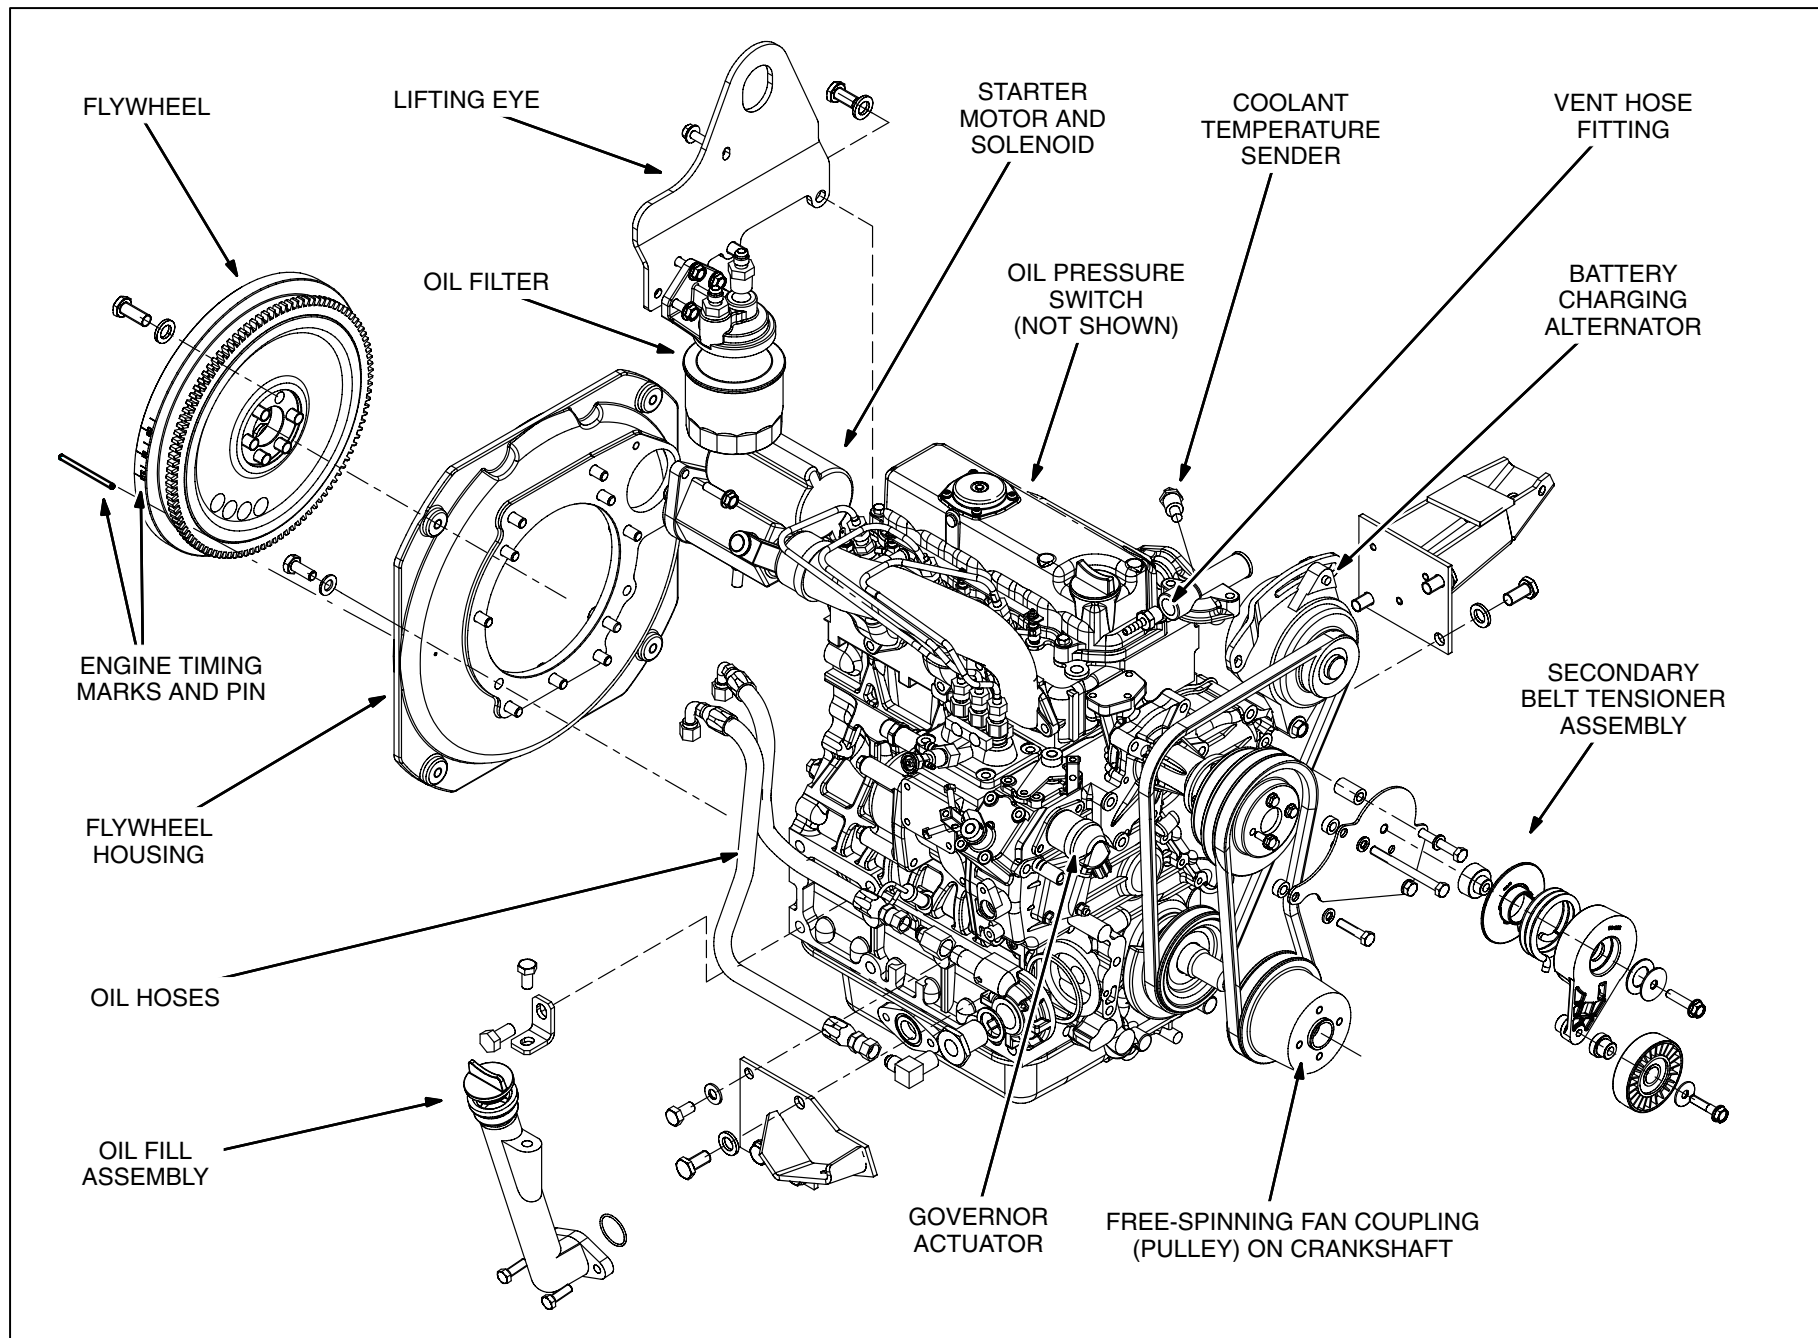
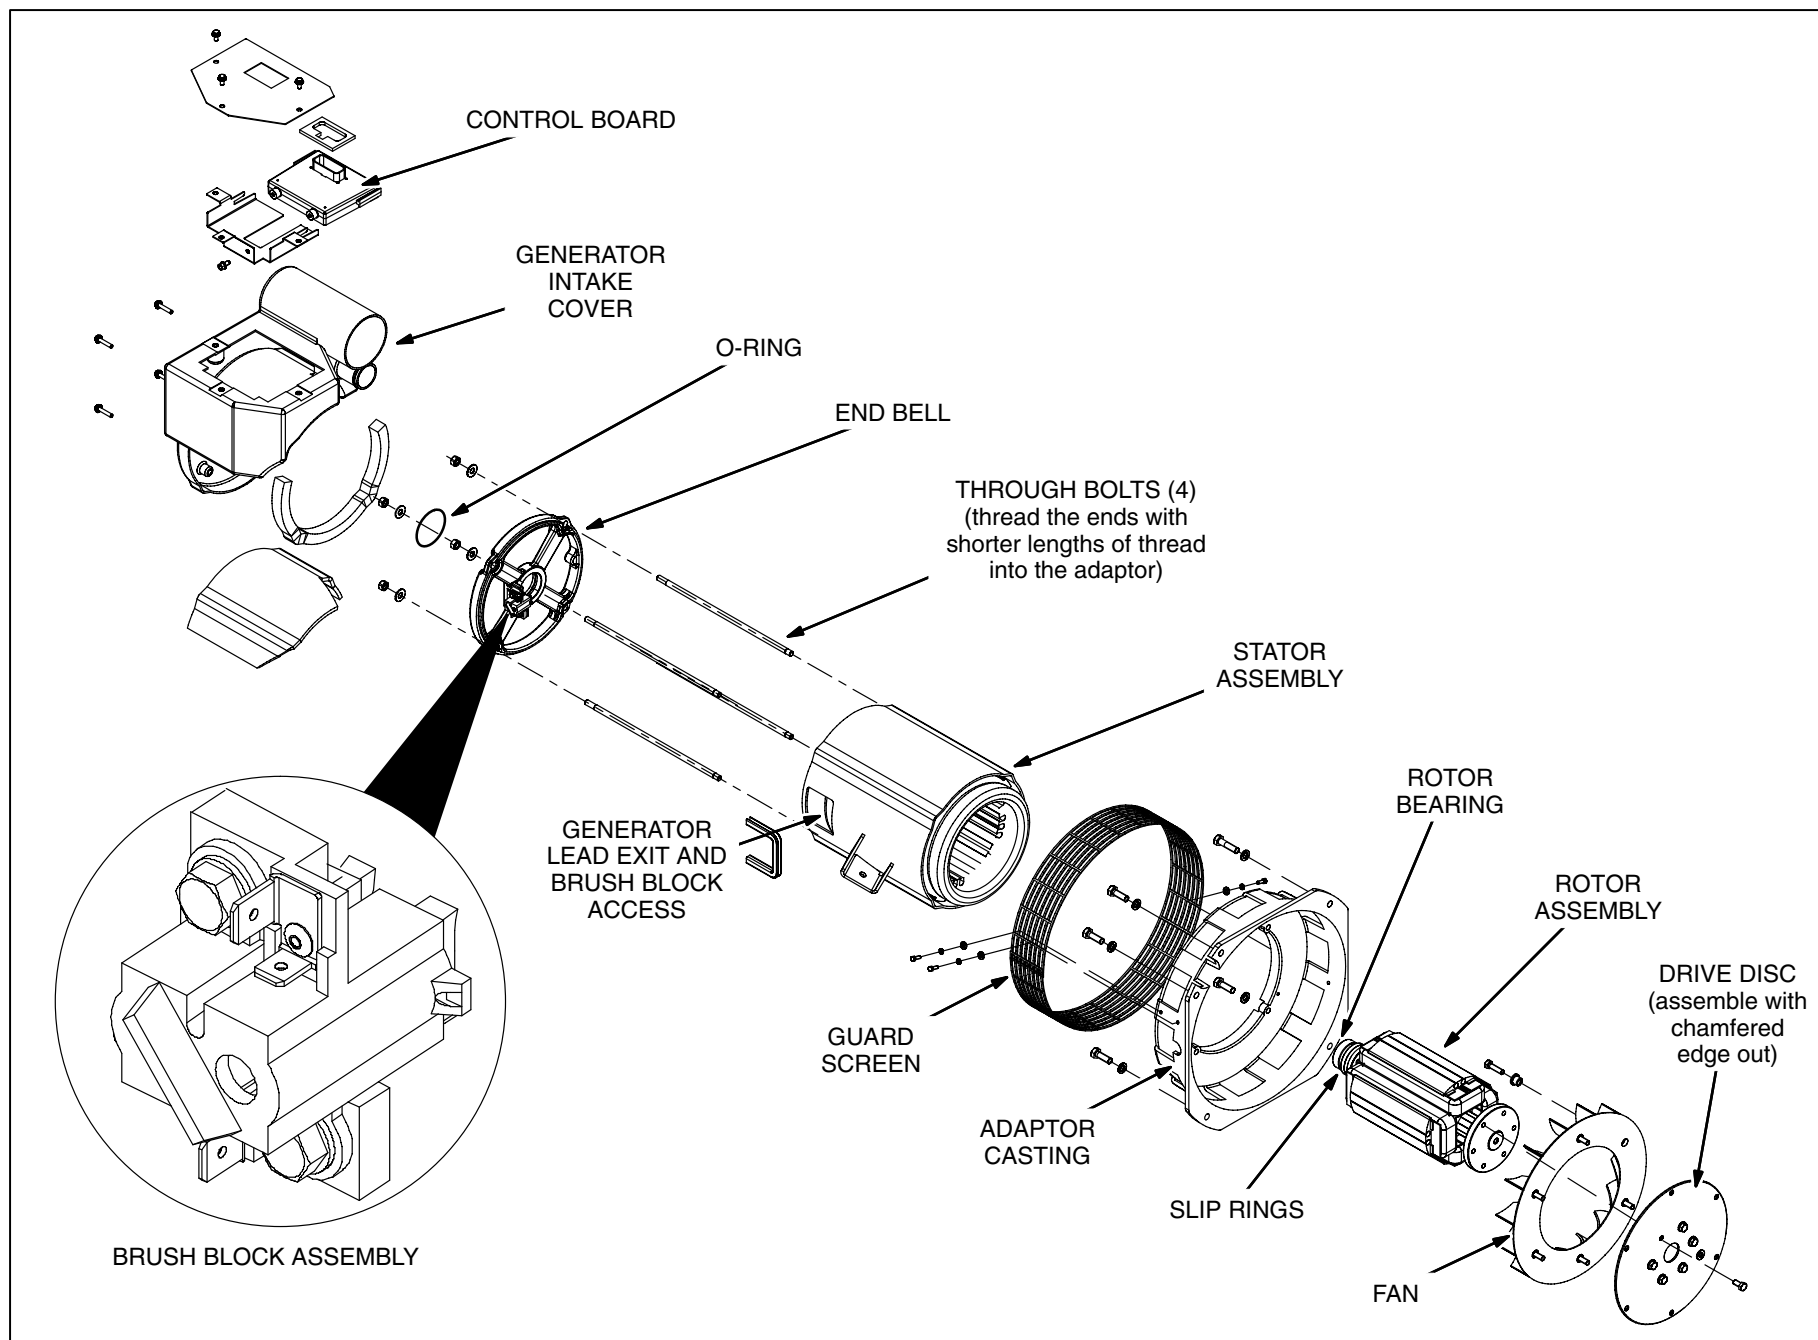

FIGURE 9-1. ENGINE AND ACCESSORIES
FIGURE 10-1. GENERATOR
The secondary belt has a spring tensioner (Figure 9-1).
The engine-generator-muffler assembly and wiring harnesses can be removed as an assembly from the genset if it is necessary to remove either the engine (Figure 9-1) or the generator (Figure 10-1). To do so:
The engine is equipped with a coolant temperature sender and low oil pressure cutout switch (Figure 9-1). The associated fault codes (Section 12. Troubleshooting) are as follows:
1. Remove the air inlet assembly (Figure 10-1).